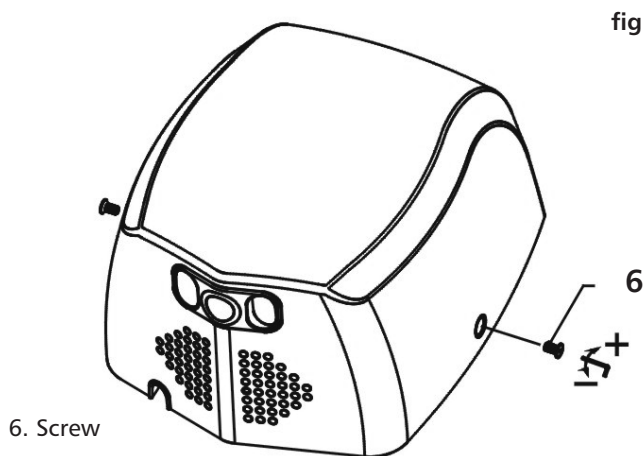
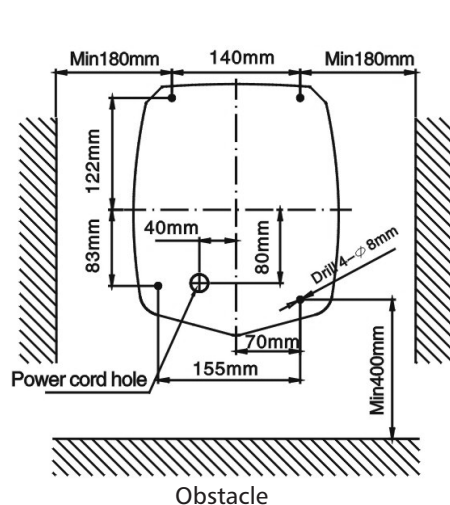

fig. 2
fig. 3
1. As showed in Fig. 2, remove screws at both sides of the hand dryer with the supplied Alan key, and take off the shell. Use the installation template provided (Fig. 3) to drill 4 x 8mm holes of 35mm deep.